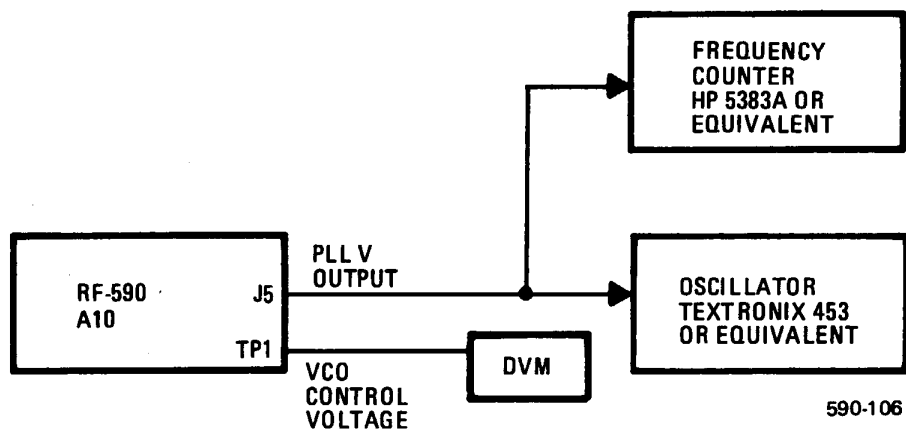

Figure 1. PLL V VCO Adjustment
- a. Connect equipment as shown in figure 1.